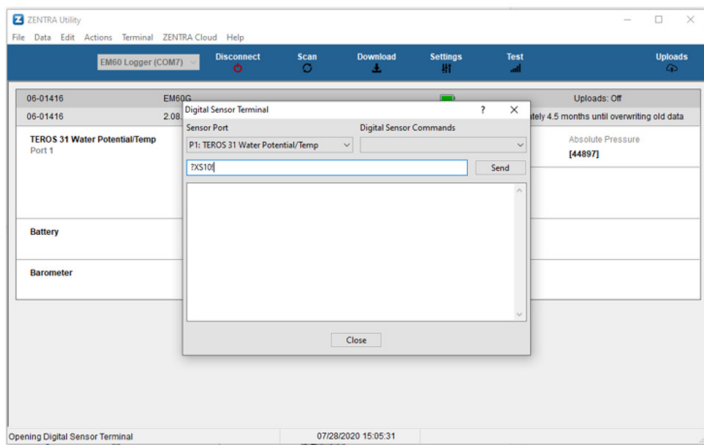

Figure 17 Send shaft length command to TEROS 31
- Select the required sensor port and send the shaft length command `XS<value>!` (replace `<value>` with the shaft length between 0 and 20 cm) (Figure 17).